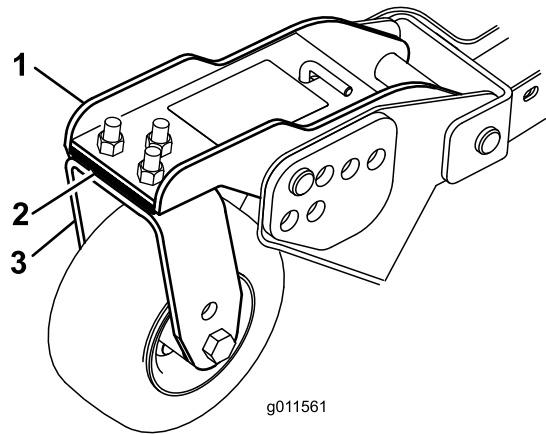

Figure 110
1. Remove the cap screws and nuts securing the castor arm to the castor fork (Figure 110).